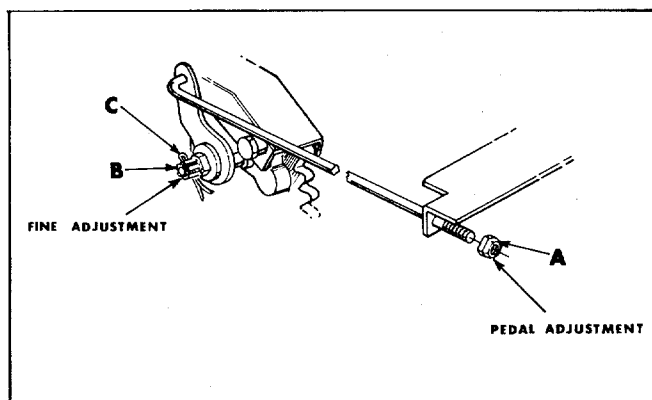

FIG. 13
PEDAL ADJUSTMENT - To take up the adjustment on the brake linkage, tighten or loosen the hex nut (A) on brake linkage. (See Fig. 13).
FINE BRAKE ADJUSTMENT - Remove hair pin (C). Turn the castle nut (B) clockwise to tighten one quarter revolution and check brakes. Repeat as necessary to have proper braking power. Replace hair pin (C). (See Fig. 13).